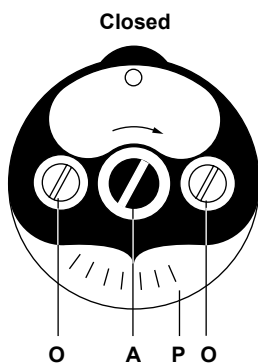

Fig. 8
4.2.1 Setting the closed torque switch (Black area, Fig. 8):